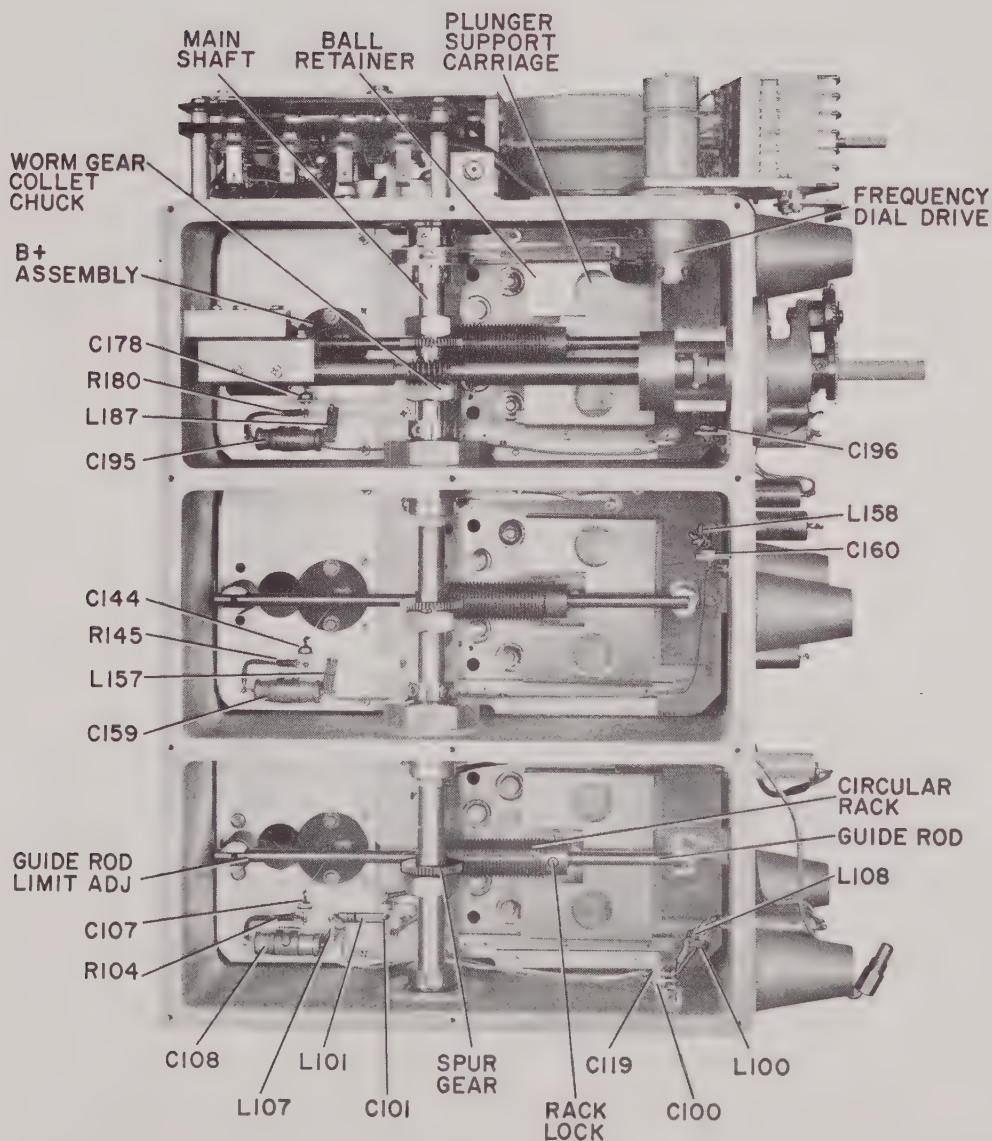

Figure 5-14. RF Assembly left interior view.
5.6.9 TUNING CAPACITOR SERVICING (FIGURE 5-14).